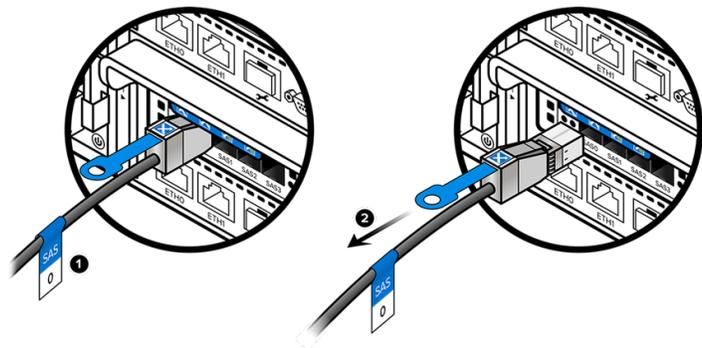

Figure 10-6. Disconnecting a SAS Cable
1. Attach a temporary label (included in your replacement controller package) to each SAS cable you disconnect (**SAS0** through **SAS3**), to indicate the number and type of the corresponding port. See Figure 10-6.